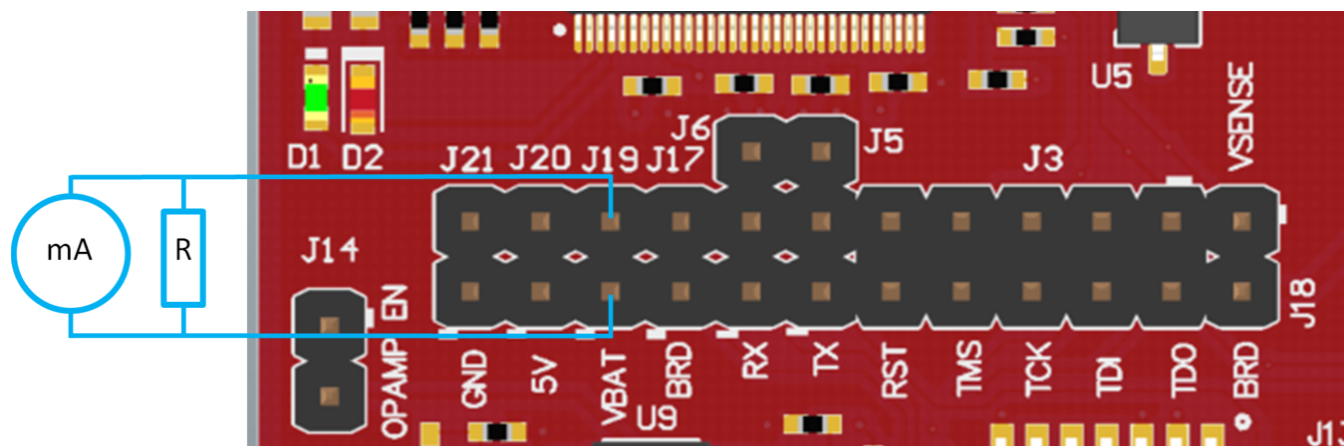

Figure 20. Active Power Measurements (>1 mA)
2. Solder a 0.1- Ω resistor on a wire, which can be connected to an oscilloscope, as shown in Figure 20. Or, attach a jumper wire between J19 so that it can be used with a current probe.